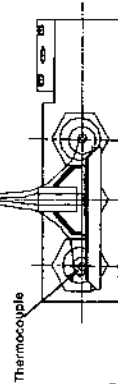
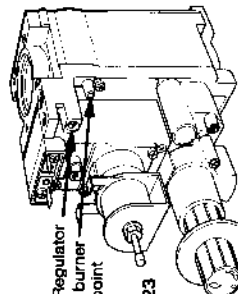

Fig. 22
Fig. 23
- 6.5.5** The pilot flame should remain alight and envelope the thermocouple (see fig. 22). If it goes out, wait 3 minutes and repeat from 6.5.4
- 6.5.7** Refer to fig. 22 and check that the pilot flame is correct. If it is necessary to adjust the flame refer to cl. 5.7.2 for access instructions. Fig. 23 shows the location of the adjustment screw.
- 6.7.4** Locate the main burner pressure test point (Fig. 23) and slacken the screw half a turn in an anti clockwise direction. Attach a suitable pressure gauge. Turn on the main electricity supply, turn on the boiler and adjust the thermostat to the maximum setting.
With the burner on high flame, turn the gas knob in a clockwise direction and confirm that a definite 'click' is heard. Relight pilot (6.5.4). Fig. 23